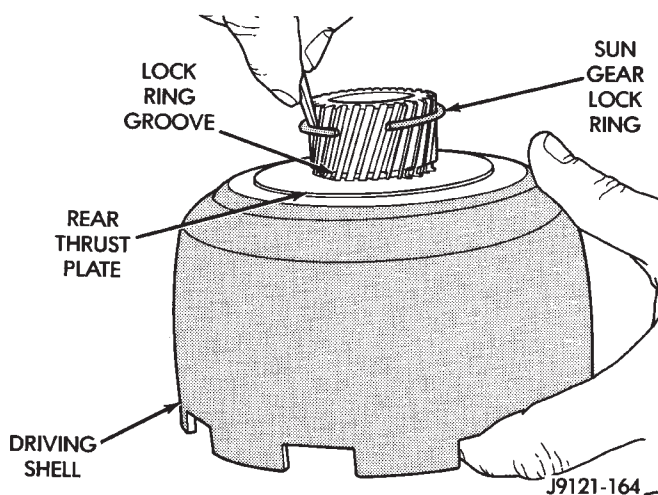

Fig. 235 Installing Sun Gear Lock Ring
(11) Align rear thrust plate on driving shell and install sun gear lock ring. Be sure ring is fully seated in sun gear ring groove (Fig. 235).